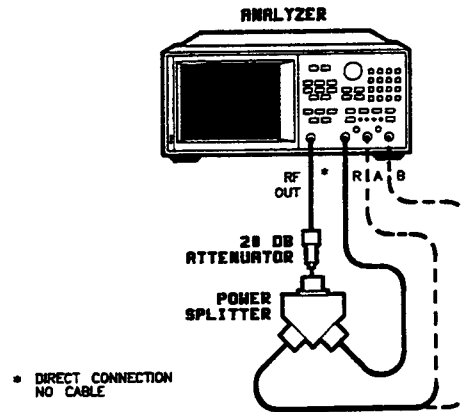

Figure 24. IF Amplifier Correction Constant Setup
2. At the prompt, connect the attenuator, power splitter and RF cables to inputs R and A as shown in Figure 24. Press **[CONTINUE]**.
3. At the prompt, connect the attenuator, power splitter and RF cables to inputs R and B as shown in Figure 24. Press **[CONTINUE]**.
4. Press **[NEXT]** repeatedly. Watch the trace on each sweep and try to spot the target spur. With the filter, the target spur will be one of two obvious spurs (see Figure 24). Without the filter (not recommended), it will be one of four or five less distinct spurs as shown in Figures 27, 28, and 29. When the center frequency increases to 2994.999 MHz, "Cav Osc Cor FAIL" will appear on the display.